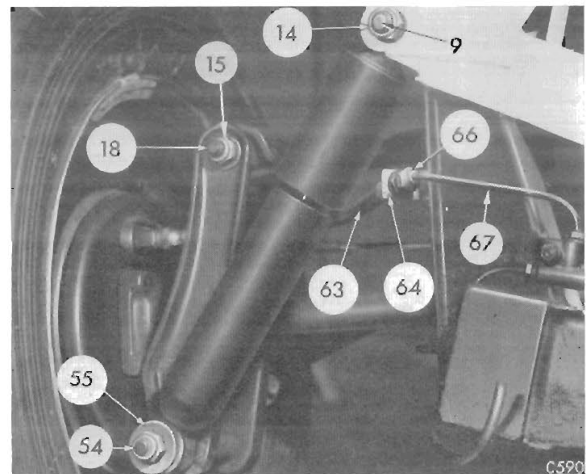

Fig. 41. Rear suspension brake hose, damper and vertical link attachments
1. Disconnect each brake hose from its steel pipe and chassis bracket by unscrewing union nut (66), Fig. 41, and removing nut (65) whilst holding the flexible pipe (63) stationary.
4. Slacken the damper upper attachment bolt (9), Fig. 41, remove the nyloc nut (54) and washer (55) from the lower attachment and pull the damper (11) clear of its lower fulcrum. Remove the jack from the vertical link.